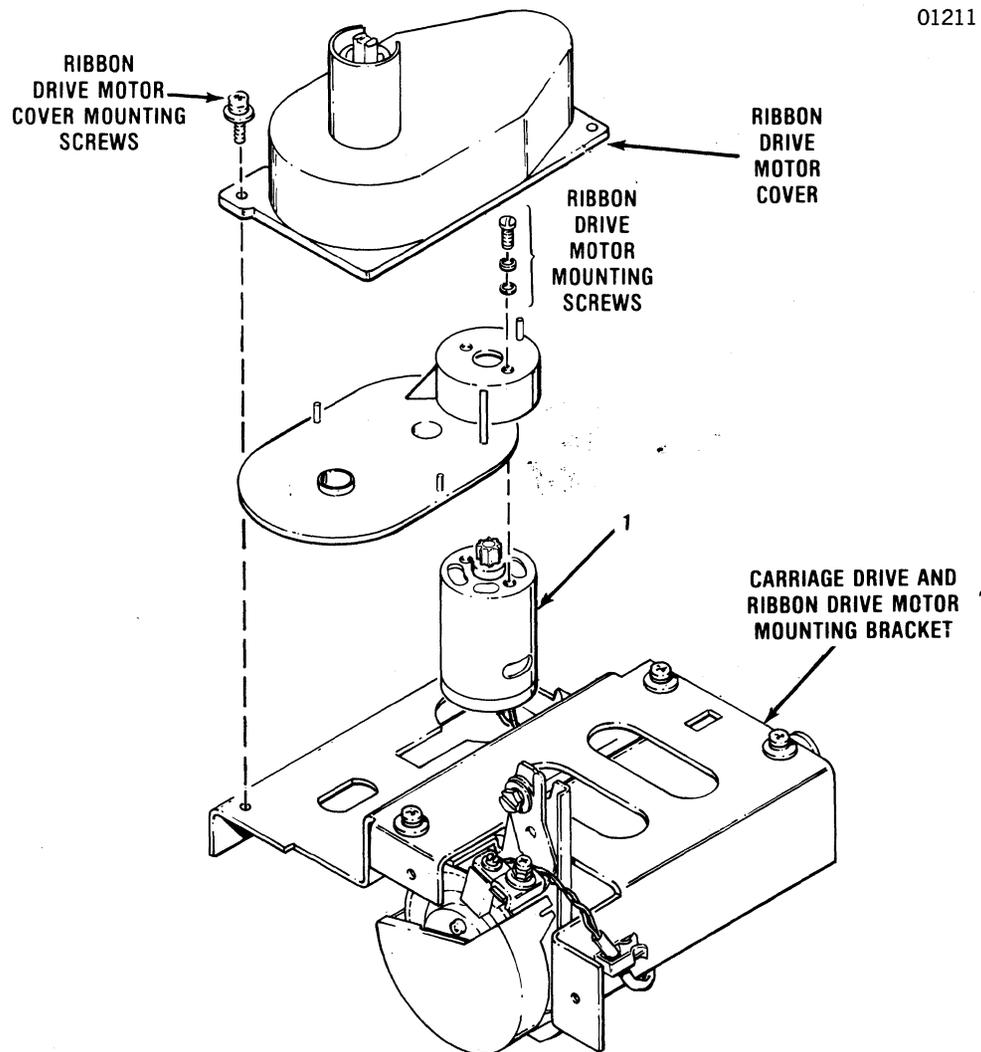

Figure 5-12. REMOVAL/REPLACEMENT, RIBBON DRIVE MOTOR
The ribbon drive motor, item 1 of Figure 5-12, is removed using a Phillips head screwdriver and a flat blade screwdriver. To remove the motor, refer to Figure 5-12 and perform the following steps: